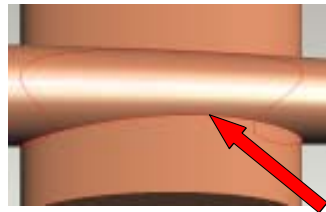

figure 4
7. Using the center scroll button on your mouse, rotate and zoom in on the front axle support area as shown in *figure 4*.
8. Use **select edge command**  from the **select tools toolbar**, to select the line shown in *figure 4* above.